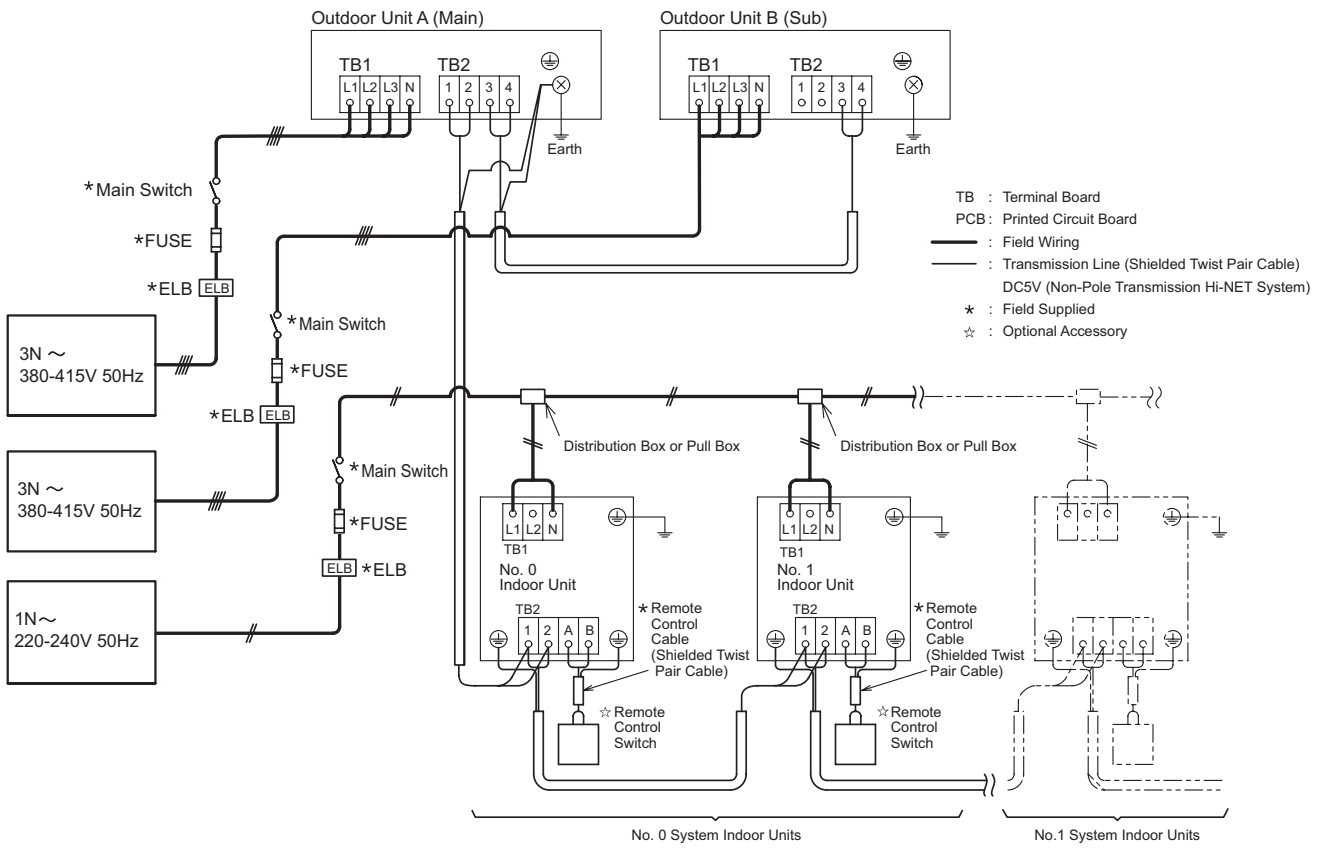

Fig. 7.2 Instruction for Electrical Wiring Connection
- (1) Connect a power supply wiring to each outdoor unit. Connect an ELB, fuse and main switch (S) to each outdoor unit.
- (2) Connect a power supply wiring to each indoor unit group to be connected to the same outdoor unit. (Max. capacity of one indoor unit group is 250 KBtu/h.) Connect an ELB, fuse and main switch (S) to each indoor unit group.
- (3) Connect the transmission wiring between indoor units and outdoor units, as shown in Fig. 7.2 and 7.3.
- (4) Connect the transmission wiring in the same refrigerant cycle unit. (In case that the refrigerant pipe of indoor unit is connected to the outdoor unit, connect the transmission wiring to the same indoor unit.) Connecting the refrigerant pipe and transmission wiring to the different refrigerant cycle systems may lead to malfunction.
- (5) Use 2-Core lead wires such as shielded twist pair cable for the transmission wiring. (Do not use 3-Core or over.)
- (6) Use the same kind of cables for the Hi-NET system of the same refrigerant cycle.
- (7) The transmission wiring is required to be separated from the power supply wiring. Keep at least 5cm between the transmission wiring and the power supply wiring, and also min. 1.5m between the transmission wiring and power supply wiring for other electrical device. If the above is not secured, put the power supply wiring into the metal conduit tube to separate from other wirings.
- (8) Connect the following transmission wiring to the terminals 1 and 2 of TB2 in the outdoor unit A (main unit).
- (9) Do not connect the power supply wiring to the terminal board for transmission wiring (TB2). Printed circuit board may be damaged.
- (10) Connect the earth wire for the outdoor/indoor. The earth wiring work under the condition of 100Ω (max.) ground resistance should be performed by the qualified person.